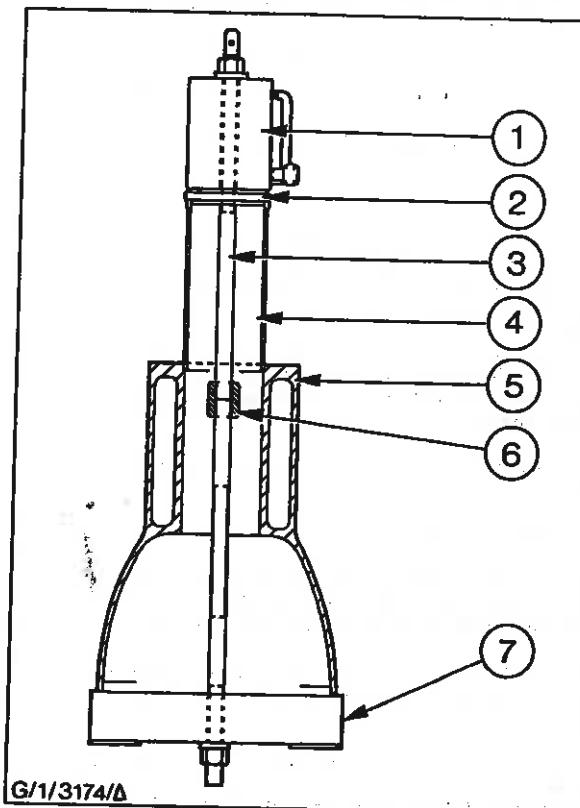

Fig. 40 - Fitting Cylinder Liner
13. Assemble the two long pull rods together using the pull rod coupler, and assemble the cross beam with a nut and washer to the lower end. Pass the assembly through the cylinder bore and liner, locating the cross beam across the bottom face of the crankcase - see Fig. 40.